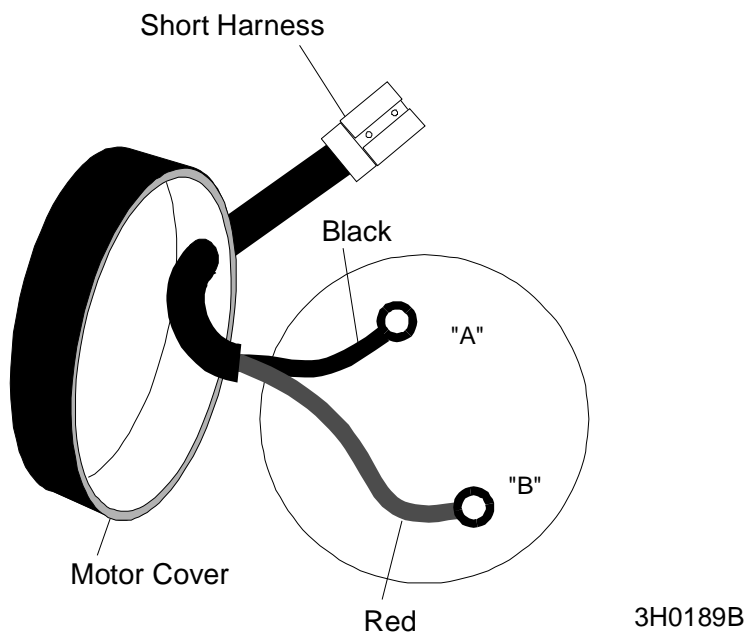

FIG. 1-6
See Figure 1-6.
2. Install the short male harness to the power feed motor. **See Figure 1-6.** Route the harness cable through the motor cover grommet. **NOTE:** A lubricant may be necessary to fit the harness through the grommet.